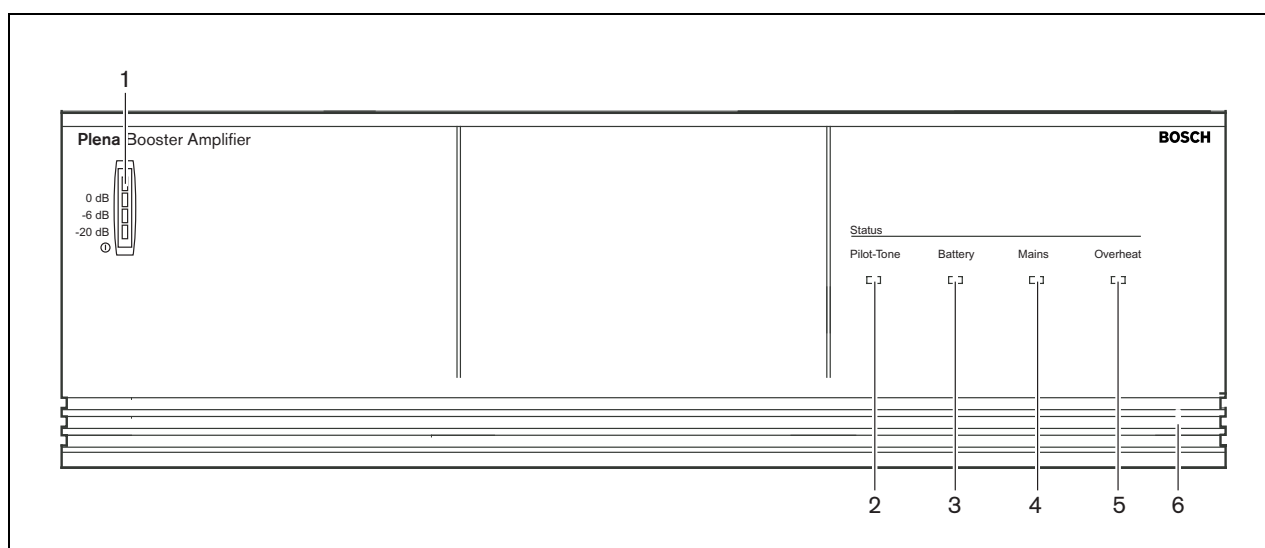

figure 5.2: Front panel LBB1938/20
If mains power or back-up power is available, the VU-bar (1) on the front of the power amplifier is lit and shows the output level of the amplifier (see figure 5.2).